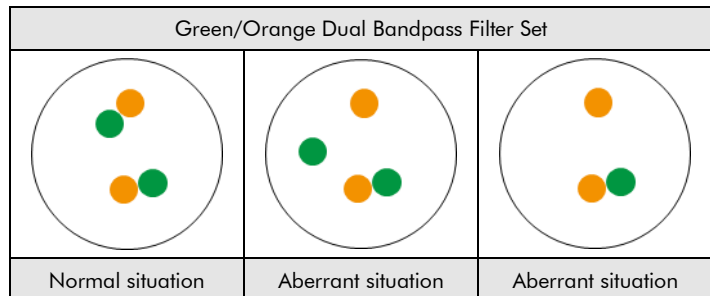

Fig. 2: Expected results in normal and aberrant nuclei
**Normal situation:** In interphases of normal cells or cells without a translocation involving the ALK gene region, two green/orange fusion signals appear (see Fig. 2).
**Aberrant situation:** One ALK gene region affected by a translocation is indicated by one separate green signal and one separate orange signal. An EML4-ALK inversion with deletion of 5'-ALK sequences is indicated by one or multiple isolated orange signals (see Fig. 2).